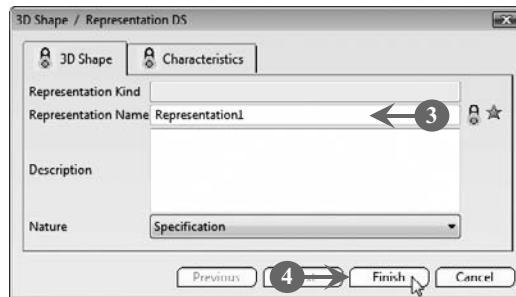

FIGURE 1.30
The **3D Shape/Representation DS** dialog box opens (**Figure 1.30**).
3. Enter a name for the representation in the **Representation Name** text box (**Figure 1.30**). In our case, we continue with the default name, **Representation1**.
4. Click the **Finish** button to close the **3D Shape/Representation DS** dialog box, as shown in **Figure 1.30**: